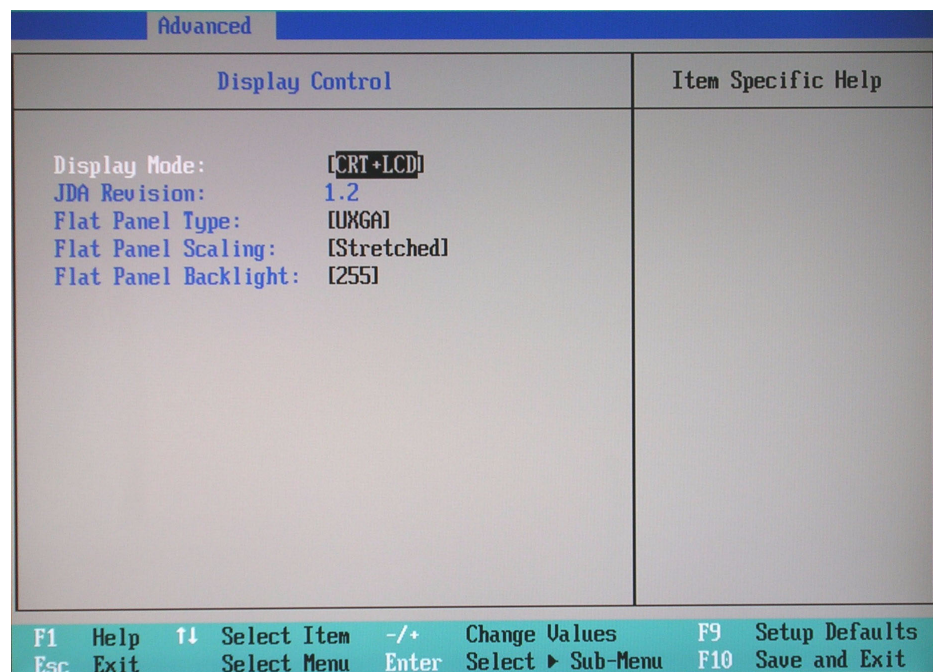

Figure 8-117 BIOS Advanced Display Control Parameters
Display Control	Figure 8-117 on page 8-113
24.) Set the parameters in the **Display Control** screen as shown above in Figure 8-117.